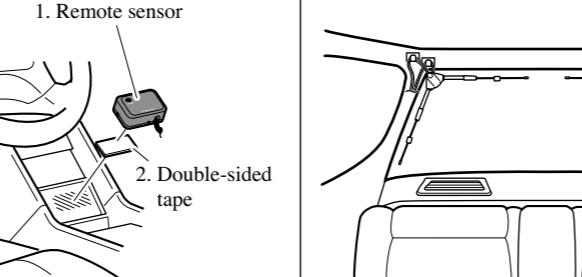

Fig. 1
**Switching the operation mode (Fig. 1)**